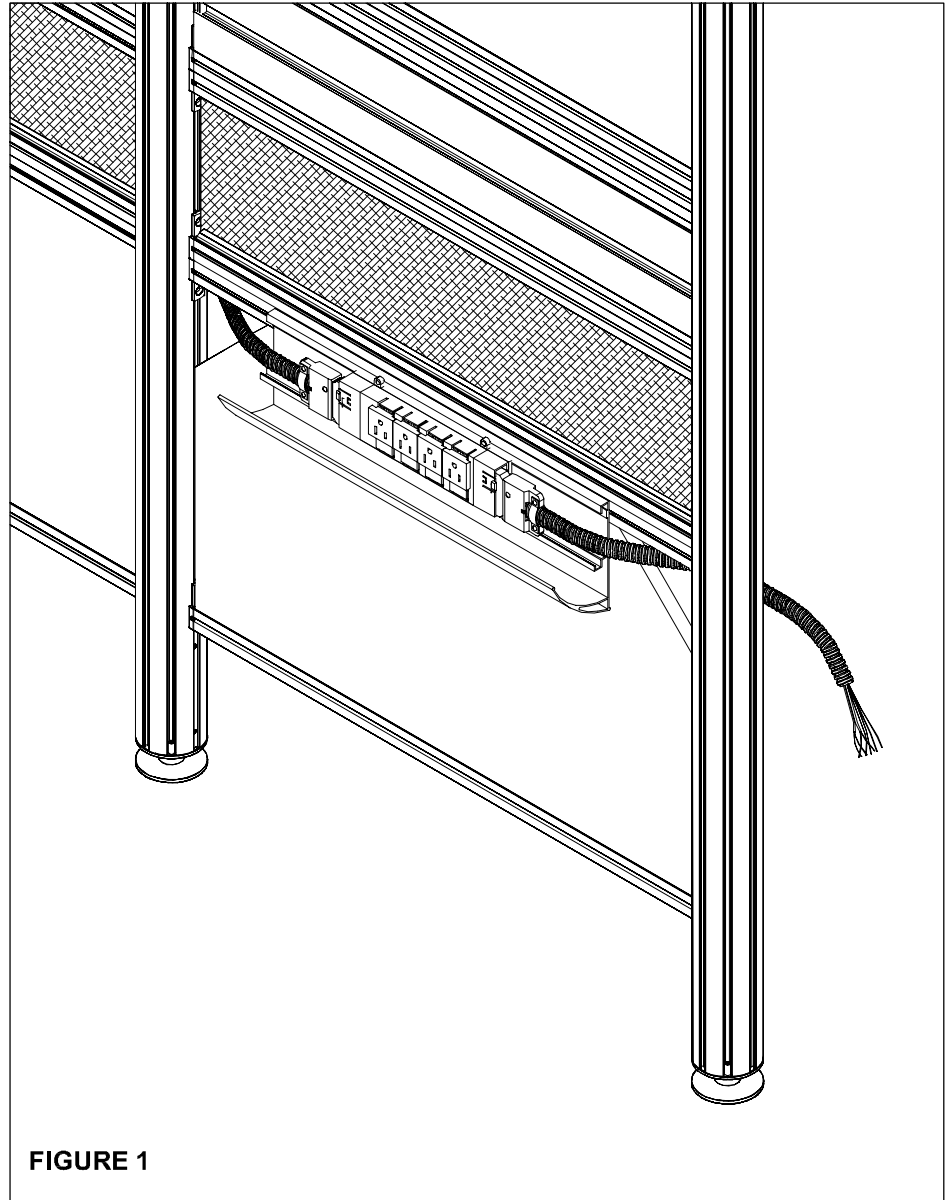

FIGURE 1
1. Figure 1 shows the cable in the pass through screens.